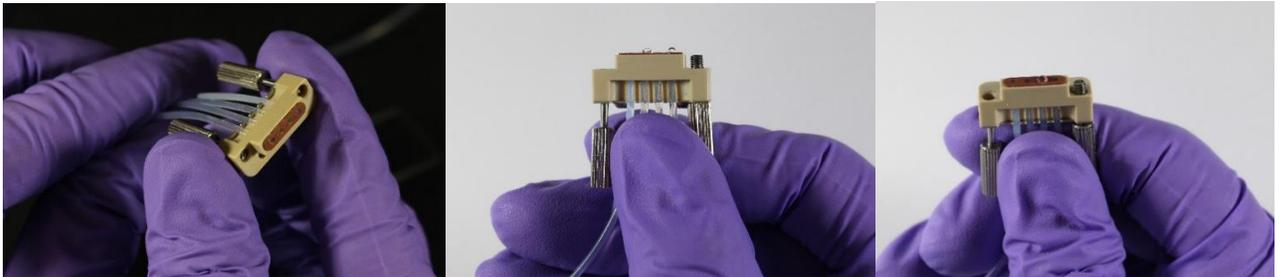

Figure 2: Linear connector (left), droplets of priming fluid forming at the gasket for channel 2 and 4 (middle) and droplet formation for channel 3 (right)
- From the preassembled kit, remove the input connector from H-interface by loosening the two screws with hands (figure 2- left panel).
- Open valve V1 to allow the flow of DMSO and within a minute droplet of DMSO will form on the gasket at output positions 1 and 3 (figure 2-middle panel).